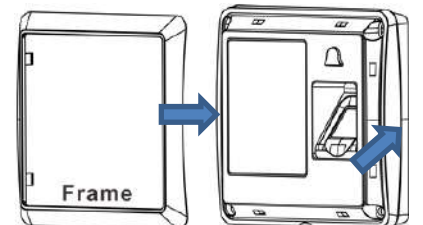

Figure 6
2.1.5 The frame installed in the corresponding position (Figure 6).